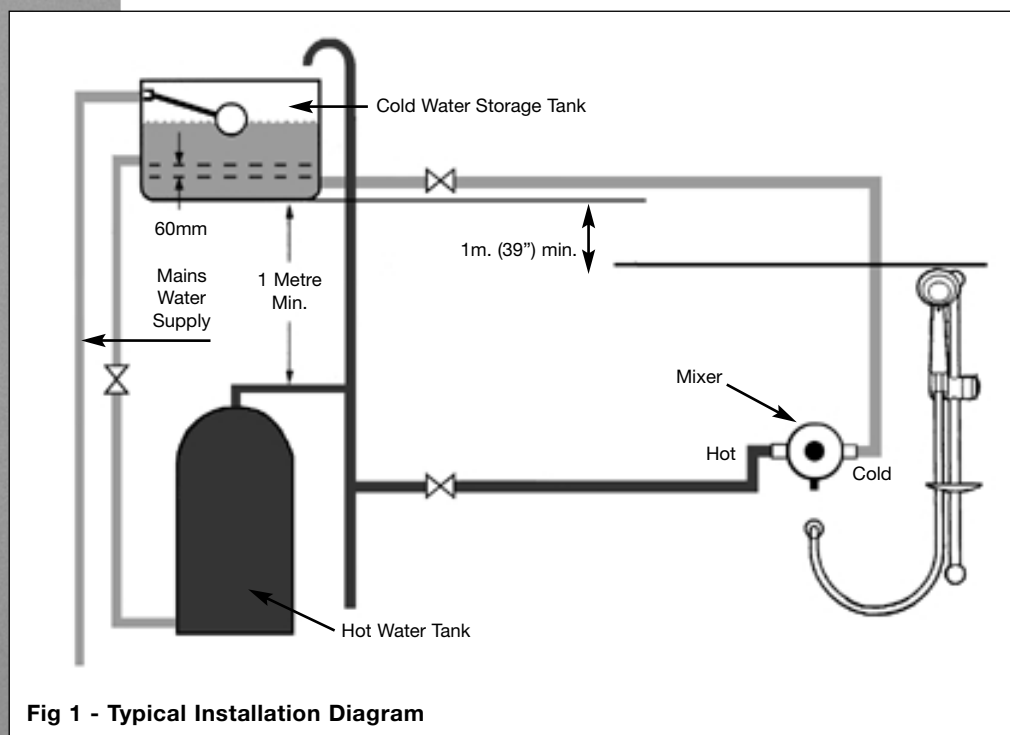

Fig 1 - Typical Installation Diagram
1. This shower pack is supplied for fixing to gravity fed stored water systems (Fig 1) which should be capable of providing hot and cold water supplies at nominally equal pressures. Ideally these supplies should be independent of any other draw-offs (e.g. bath/basin taps), thus minimising the effects of any temperature fluctuations whilst using the shower. With slight adjustment this thermostatic Shower can also be made to suit:
- Make your connection into the hot water supply pipe from the cylinder ensuring that it is the first draw off below the expansion pipe tee (Fig 1).
- The cold water supply should be taken directly from the cold storage tank, and must be positioned 60mm below the cold connection to the hot water cylinder (Fig 1).